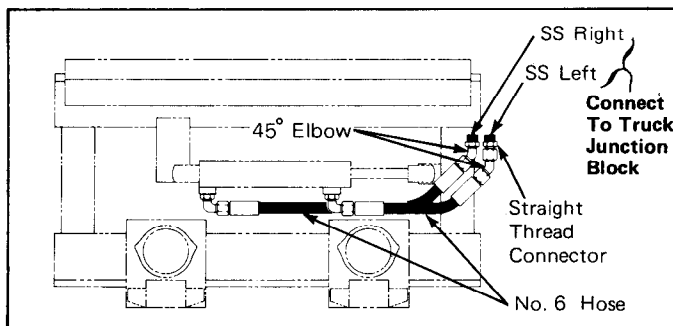

Figure 18. Plumbing the Sideshifter Assembly
1. After the sideshifter has been mounted on the truck carriage, install Cascade Attachment Installation Kit No. C-663536 OR use hoses and fittings shown in Figure 18. Be careful not to pinch, twist, or otherwise damage the hoses. Do not route the hoses where moving parts can damage them.